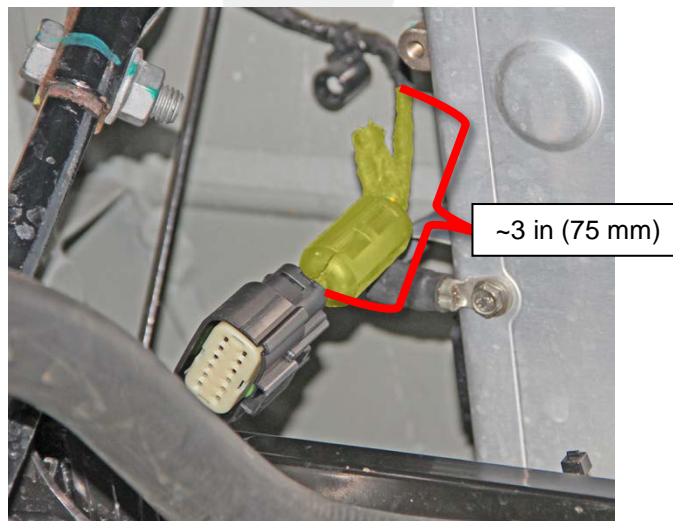

Figure 5 (Apply tape to highlighted area)
8. Wrap cloth tape around the harness so that all wires and the ferrite bead are covered from the connector to approximately 3 in (75 mm) from the connector (Figure 5).